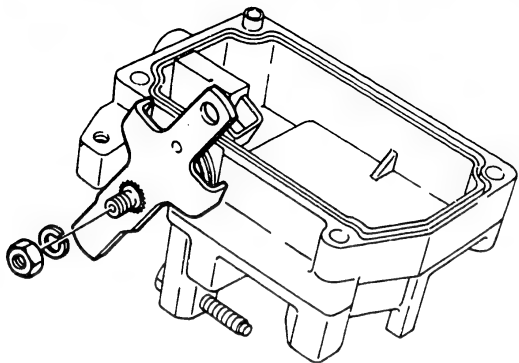

Fig. 207 Installing the stop lever
2. Install the stop lever on the stop lever shaft so that the stop lever contacts (or almost contacts) the under side of the adjusting bolt base. Then, fix the stop lever on the stop lever shaft using the washer and nut. (Fig. 207)